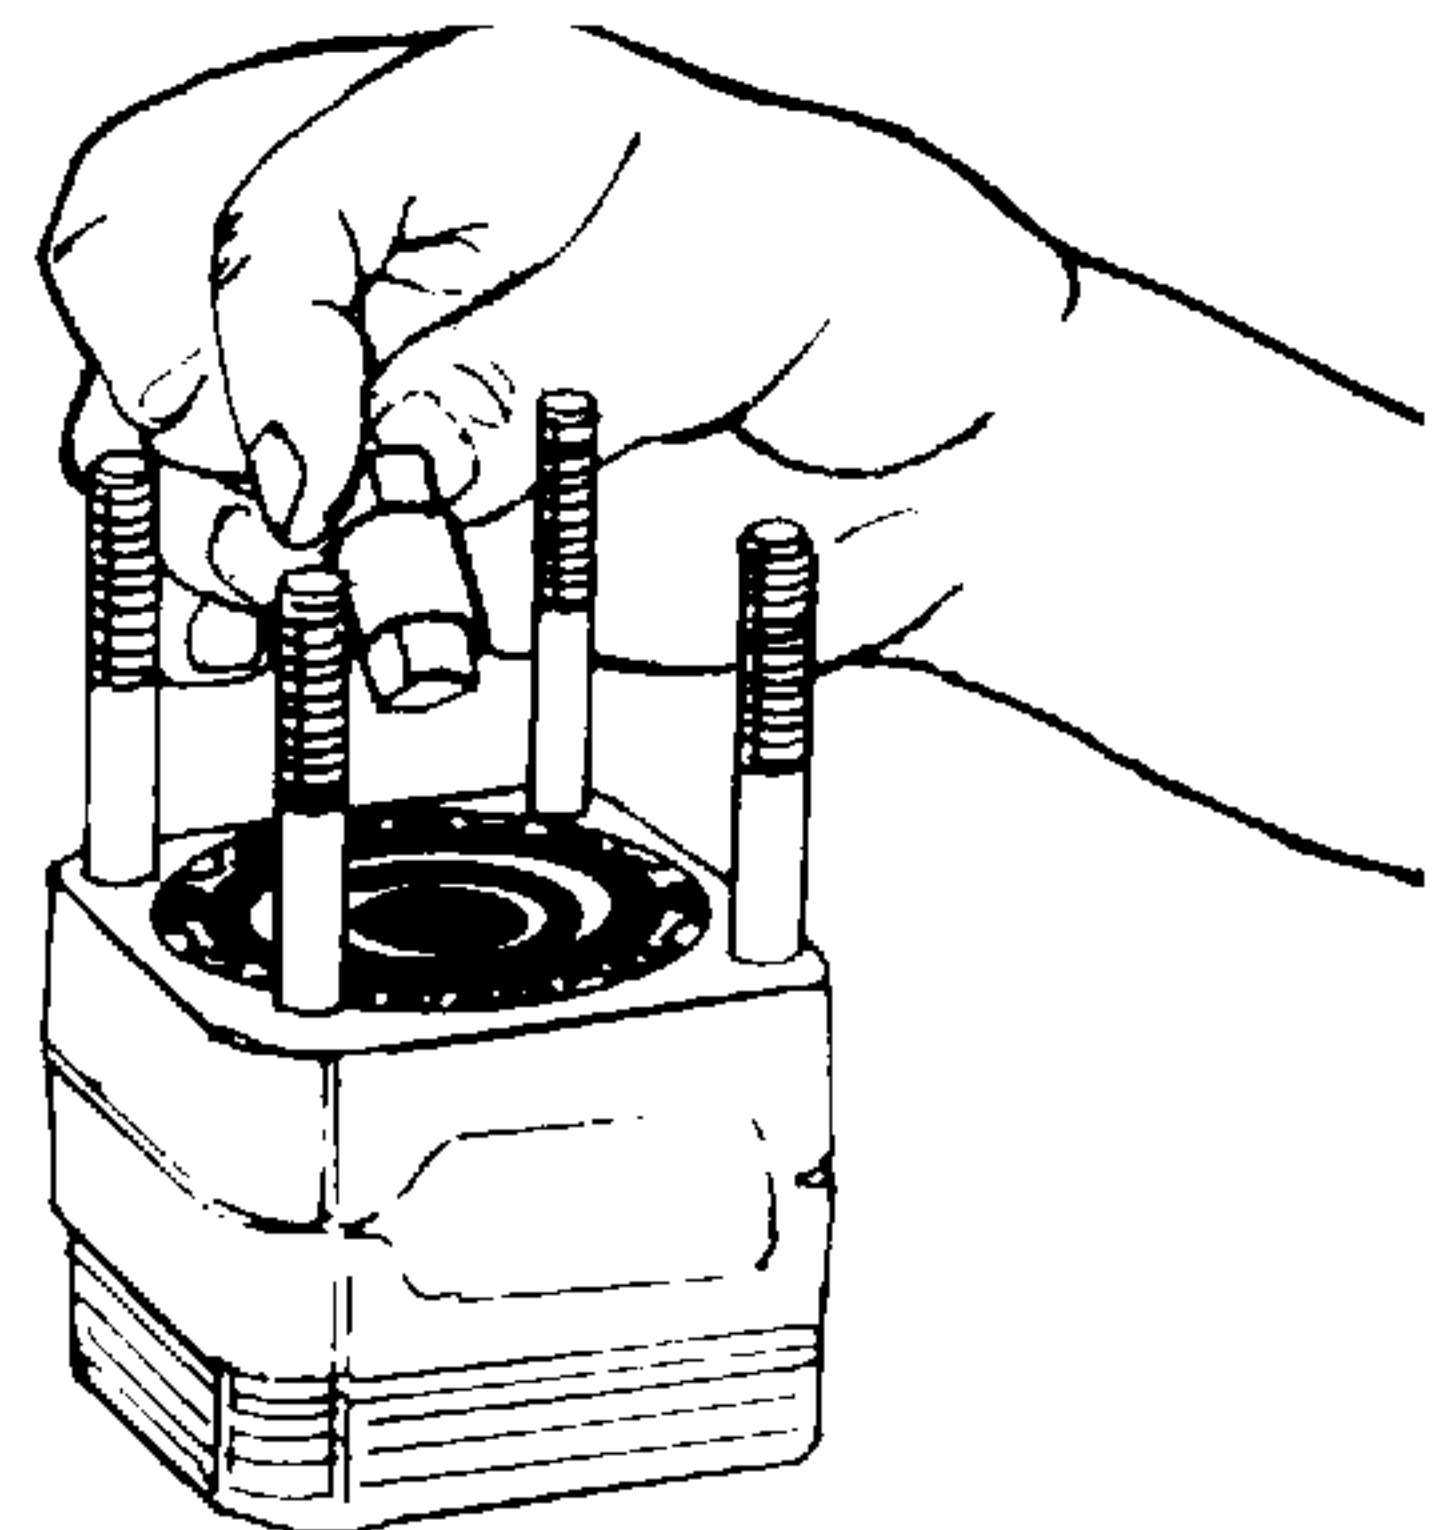

Figure 4-20. Removing Drive Link.
21. Remove drive link (14, Figure 4-1) from the unit. See Figure 4-20.